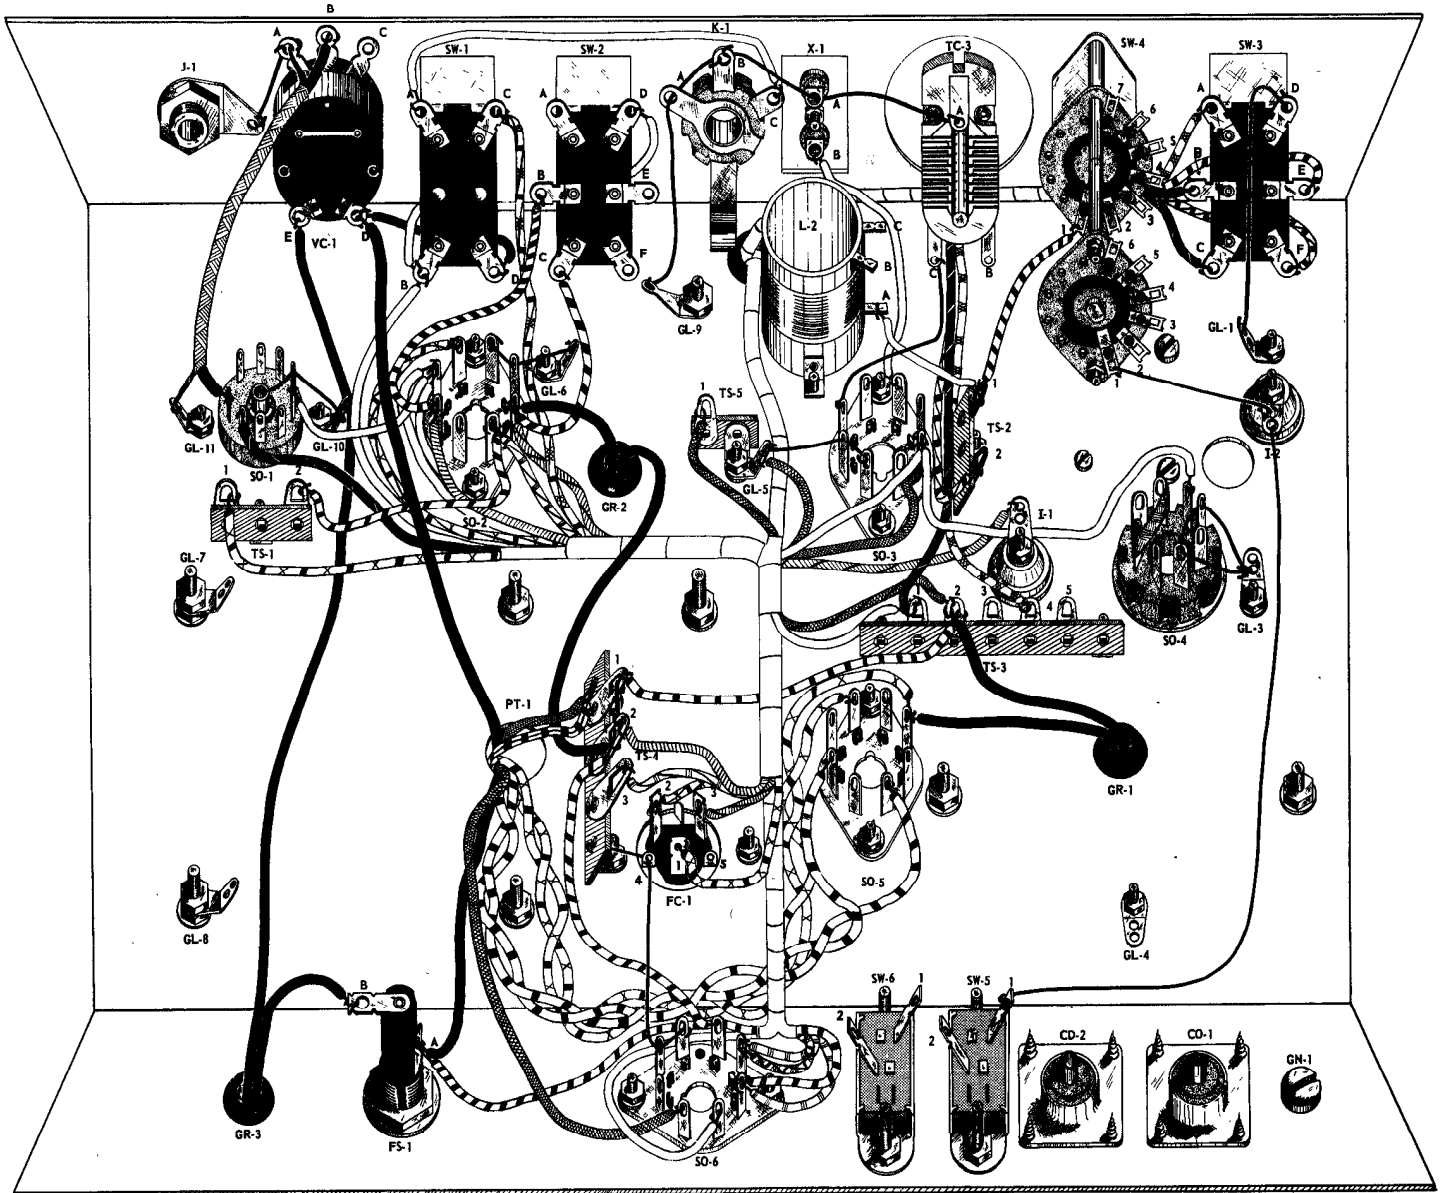
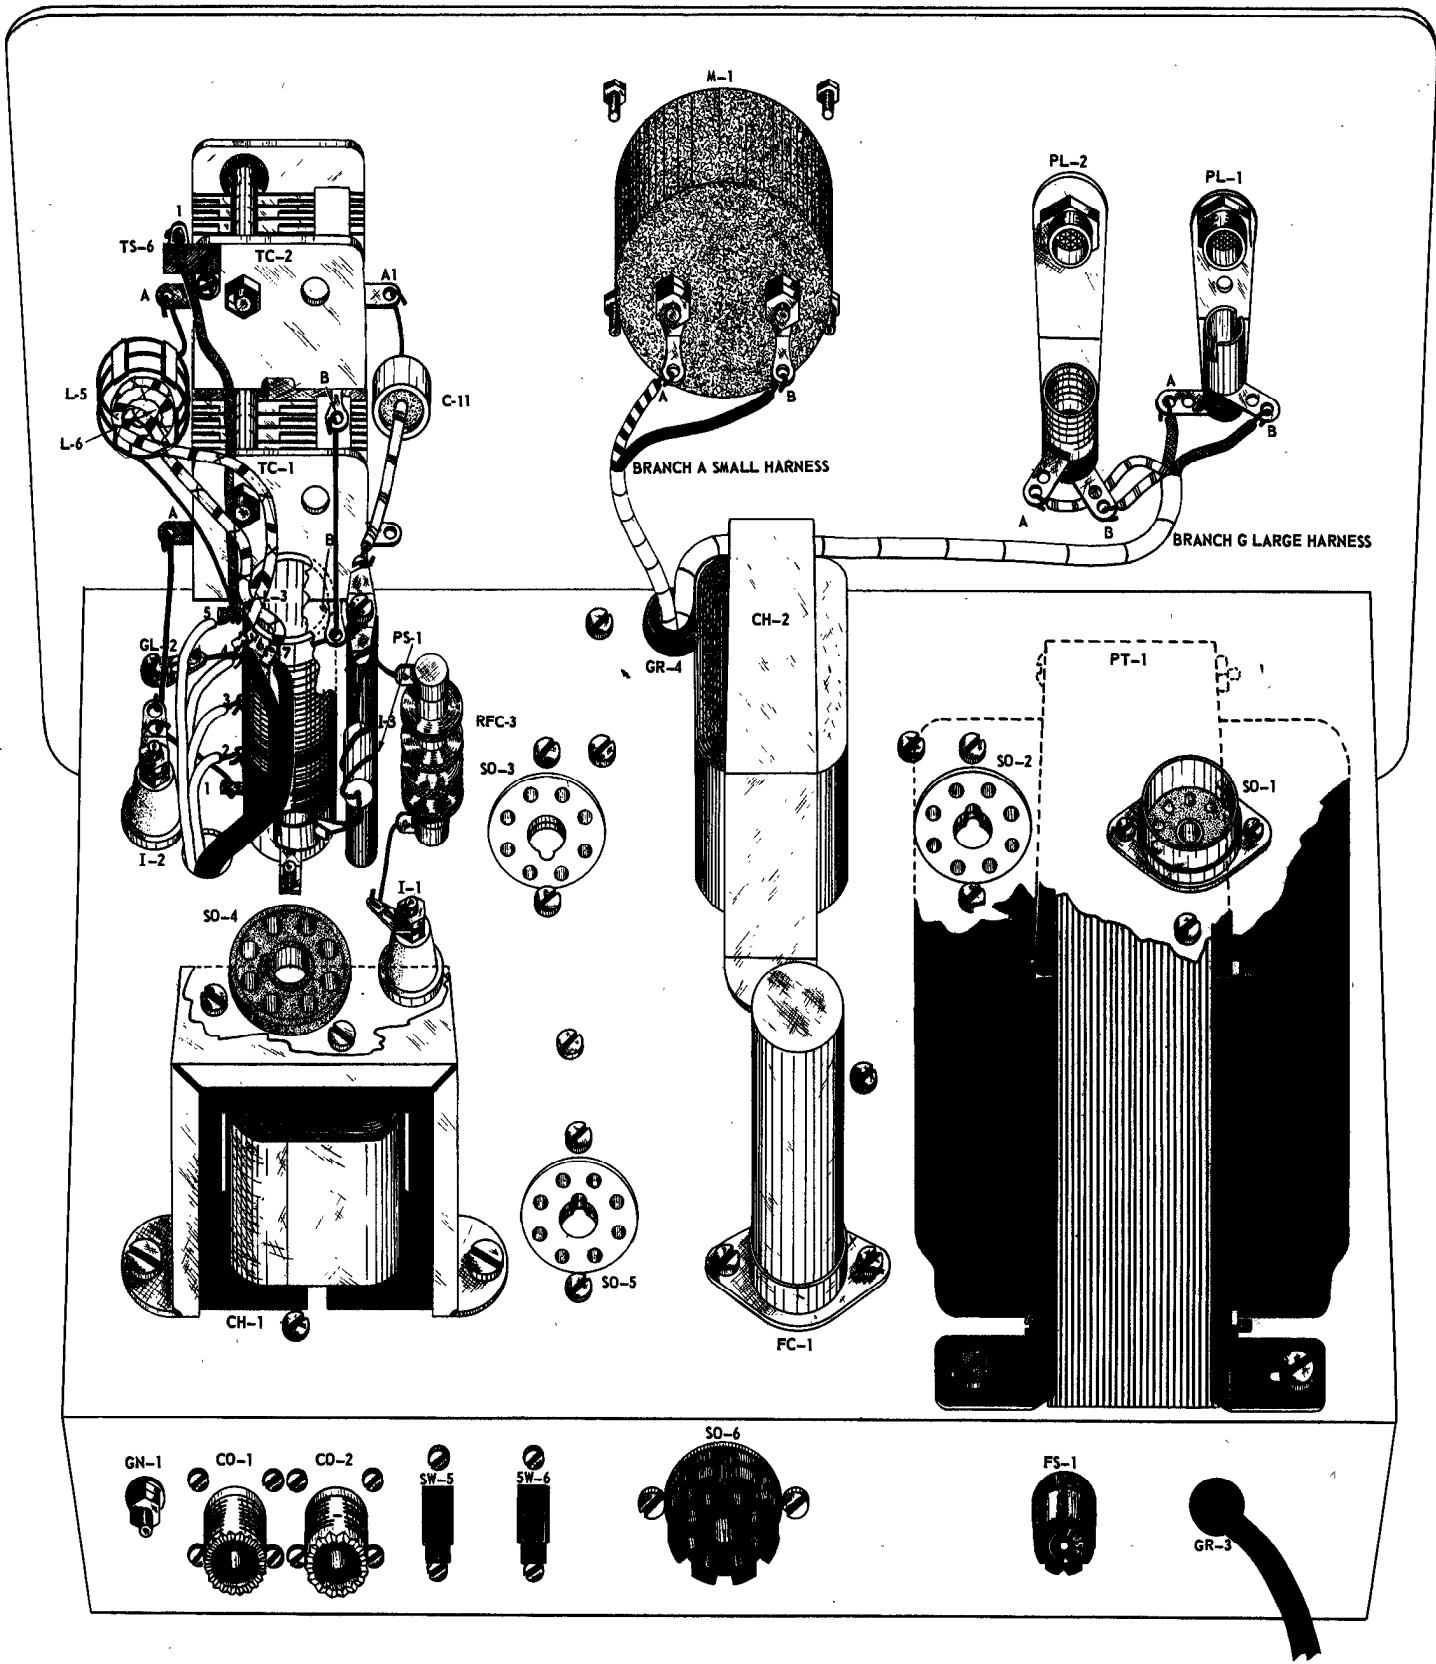

Figure 17. Wiring, Steps 1 through 103.
Figure 19. Top Of Chassis Wiring.
- 1. Place the chassis on a table, bottom side up with the rear apron of the chassis towards you as per Fig. 17.
- 3. Select one of the two BLACK leads. Route it back towards the fuse holder FS-1. Trim this lead to length and remove $\frac{1}{4}$ " of insulation from the end. Connect the trimmed end of the lead to lug A of fuse holder FS-1. Fasten securely. (NS).
- 4. Route the other BLACK lead of transformer PT-1 toward the front of the chassis to lug D of the switch cover on VC-1. Trim this lead to length and remove $\frac{1}{4}$ " of insulation from the end. Connect the trimmed end of the lead to lug D of VC-1. Fasten securely. (NS).
- 6. Connect one of the RED wires to pin 4 of socket SO-5. (S).
- 7. Connect the other RED lead to pin 6 of socket SO-5. (S).
- 9. Connect one of the YELLOW wires to pin 8 of SO-5. (S).
- 10. Connect the other YELLOW lead to pin 2 of SO-5. Crimp tightly. (NS).
- 11. Route one of the GREEN leads of transformer PT-1 along the rear apron of the chassis (with RED and YELLOW leads) to pin 7 of socket SO-6. Trim this GREEN lead to length. Remove $\frac{1}{4}$ " of insulation from the lead and connect to pin 7 of SO-6. (S).
- 20. Install the large harness assembly in the chassis as shown in Fig. 17. Route branch G through grommet hole GR-4 over to pilot lamp assemblies PL-1 and PL-2.
- 21. Route the heavy white lead in branch C around accessory socket SO-6 to pin 6 of this same socket. Trim the lead to length. Remove $\frac{1}{4}$ " of insulation from the end and connect to pin 6 of socket SO-6. (S).
- 22. Select the red lead of branch C. Route this lead to lug A of the fuse holder FS-1. Trim to length and remove $\frac{1}{4}$ " of insulation from the end. Connect to lug A of the fuse holder FS-1. (S).
- 23. Route a red lead and a blue lead of branch D to pin 5 of SO-6. Trim to length and remove $\frac{1}{4}$ " insulation from the end of each lead. Connect both leads to pin 5 of SO-6. (S).
- 24. Route the two remaining leads of branch D to pin 4 of SO-6. These are the blue lead and the white lead with violet tracer. Trim the leads to length and remove $\frac{1}{4}$ " insulation from the end of each lead. Connect both leads to pin 4 of SO-6. (S).
- 25. Route the yellow lead of branch B to lug 1 of filter condenser FC-1. Trim the lead to length and remove $\frac{1}{4}$ " insulation from the end. Connect the lead to lug 1 of FC-1. (S).
- 26. Select the white lead with yellow tracer from branch B. Route to lug 2 of filter condenser FC-1. Trim to length and remove $\frac{1}{4}$ " insulation from the end. Connect to lug 2 of FC-1. (S).
- 27. Select the white lead with black tracer from branch B. Route to lug 3 of filter condenser FC-1. Trim to length and remove $\frac{1}{4}$ " insulation from the end. Connect to lug 3 of FC-1. (S).
- 28. Select the white lead with blue tracer from branch B. Route to lug 3 of tie strip TS-4. Trim to length and remove $\frac{1}{4}$ " insulation from the end. Connect to lug 3 of TS-4. (NS).
- 29. Route the remaining lead of branch B (brown lead) to lug 2 of tie strip TS-4. Trim to length and remove $\frac{1}{4}$ " insulation. Connect to lug 2 of TS-4. (NS).
- 30. Route the white lead of branch E to lug 1 of tie strip TS-3. Trim to length and remove $\frac{1}{4}$ " insulation from the end. Connect to lug 1 of TS-3. (NS).
- 40. Route the white lead with yellow tracer of branch A to pin 8 of socket SO-2. Trim to length and remove $\frac{1}{4}$ " insulation from the end. Connect to pin 8 of SO-2. (NS).
- 41. Route the brown lead of branch H to to pin 6 of socket SO-2. Trim to length and remove $\frac{1}{4}$ " insulation from the end. Connect to pin 6 of SO-2. (NS).
- 42. Route the white lead of branch H to lug B of switch SW-1. Trim to length and remove $\frac{1}{4}$ " insulation from the end. Connect to lug B of SW-1. (NS).
- 43. Route the white lead with black tracer of branch H to pin 8 of socket SO-1. Trim to length and remove $\frac{1}{4}$ " insulation from the end. Connect to pin 8 of SO-1. (NS).
- 44. Route the remaining lead of branch H (yellow lead) to lug 1 of tie strip TS-1. Trim to length and remove $\frac{1}{4}$ " insulation from the end. Connect to lug 1 of TS-1. (NS).
- 45. Turn the chassis over so the rear apron is toward you and transformer PT-1 is on your right side. Refer to Fig. 19.
- 49. Turn the chassis upside-down again. Refer to Fig. 17.
- 56. Route the remaining lead of branch C (white lead with black tracer) to lug 1 of tie strip TS-3. Trim to length and remove $\frac{1}{4}$ " insulation from the end. Connect to lug 1 of TS-3. (NS).
- 57. Route the white lead with black tracer of branch B to lug C of switch SW-3. Trim to length and remove $\frac{1}{4}$ " insulation from the end. Connect to lug C of SW-3. (S).
- 58. Route the white lead with red tracer of branch B to lug F of switch SW-3. Trim to length and remove $\frac{1}{4}$ " insulation from the end. Connect to lug F of SW-3. (S).
- 59. Route the red lead of branch B to lug E of switch SW-3. Trim to length and remove $\frac{1}{4}$ " insulation from the end. Connect to lug E of SW-3. (S).